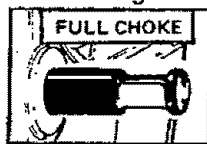

Figure 6
- Pull choke knob to full choke position. Figure 6.